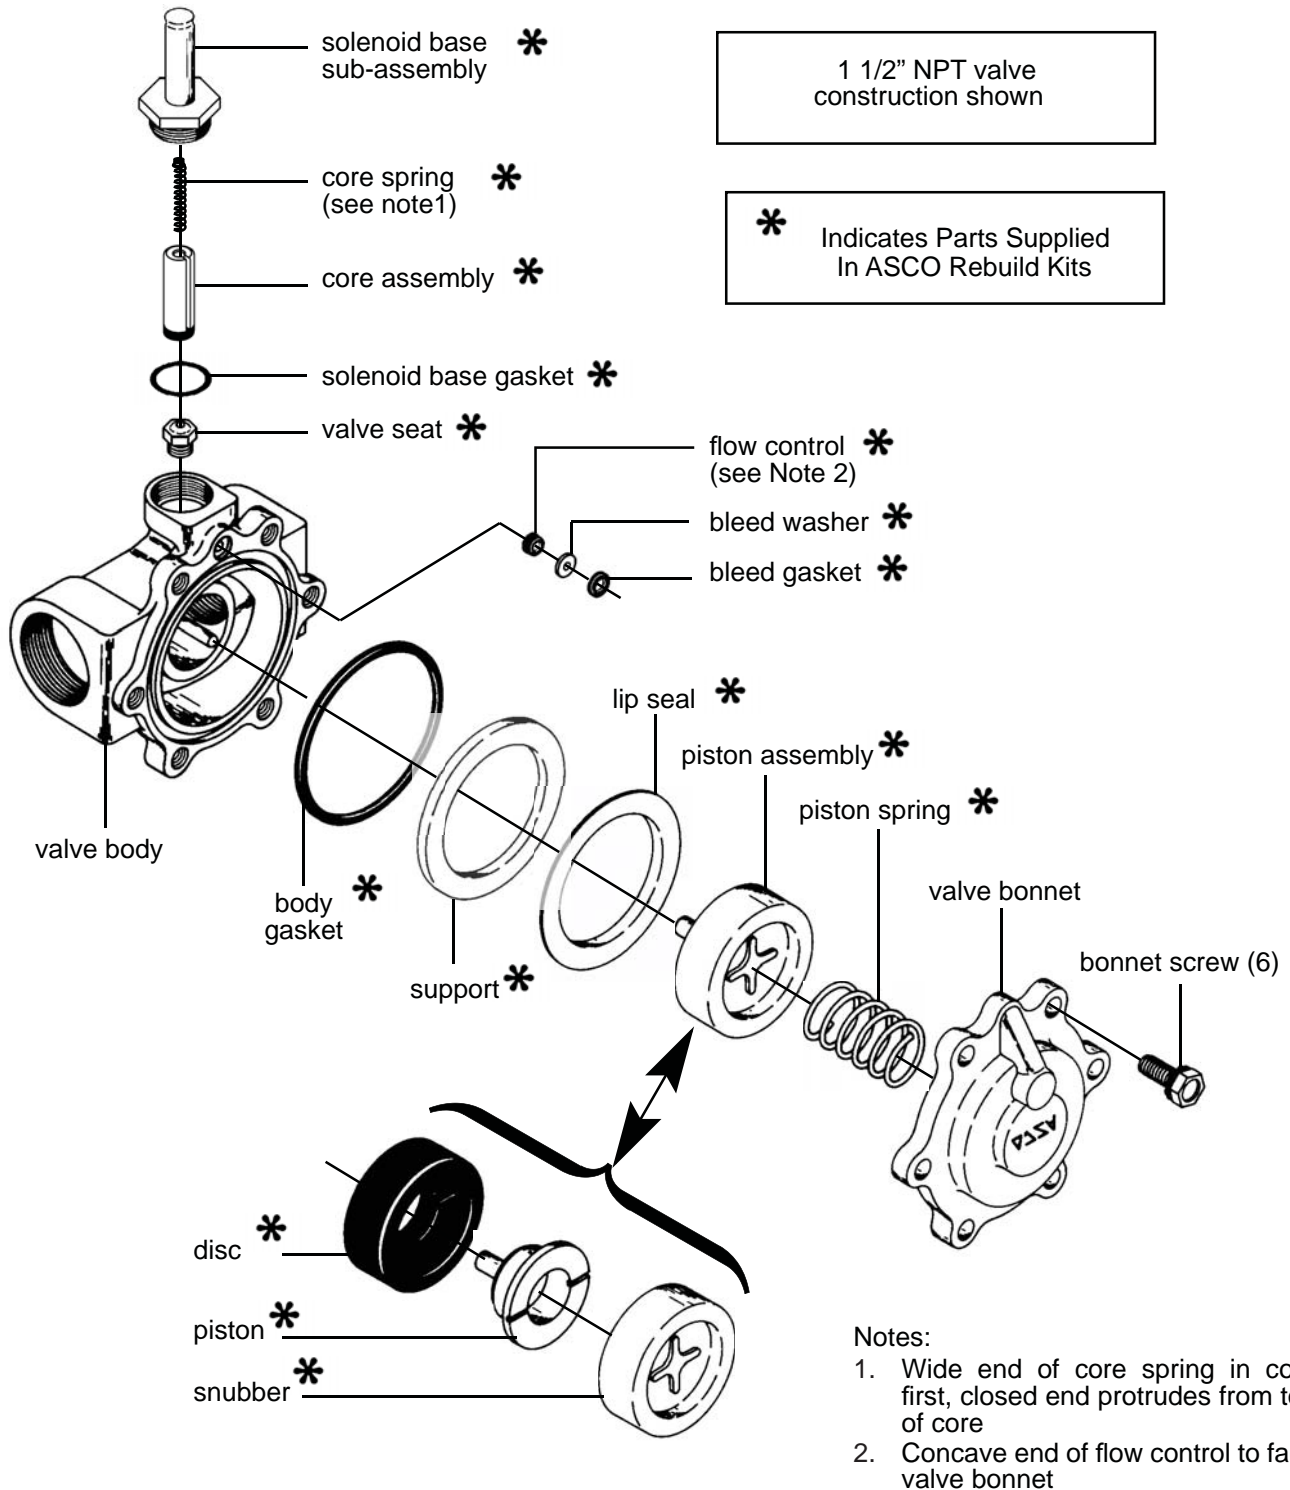
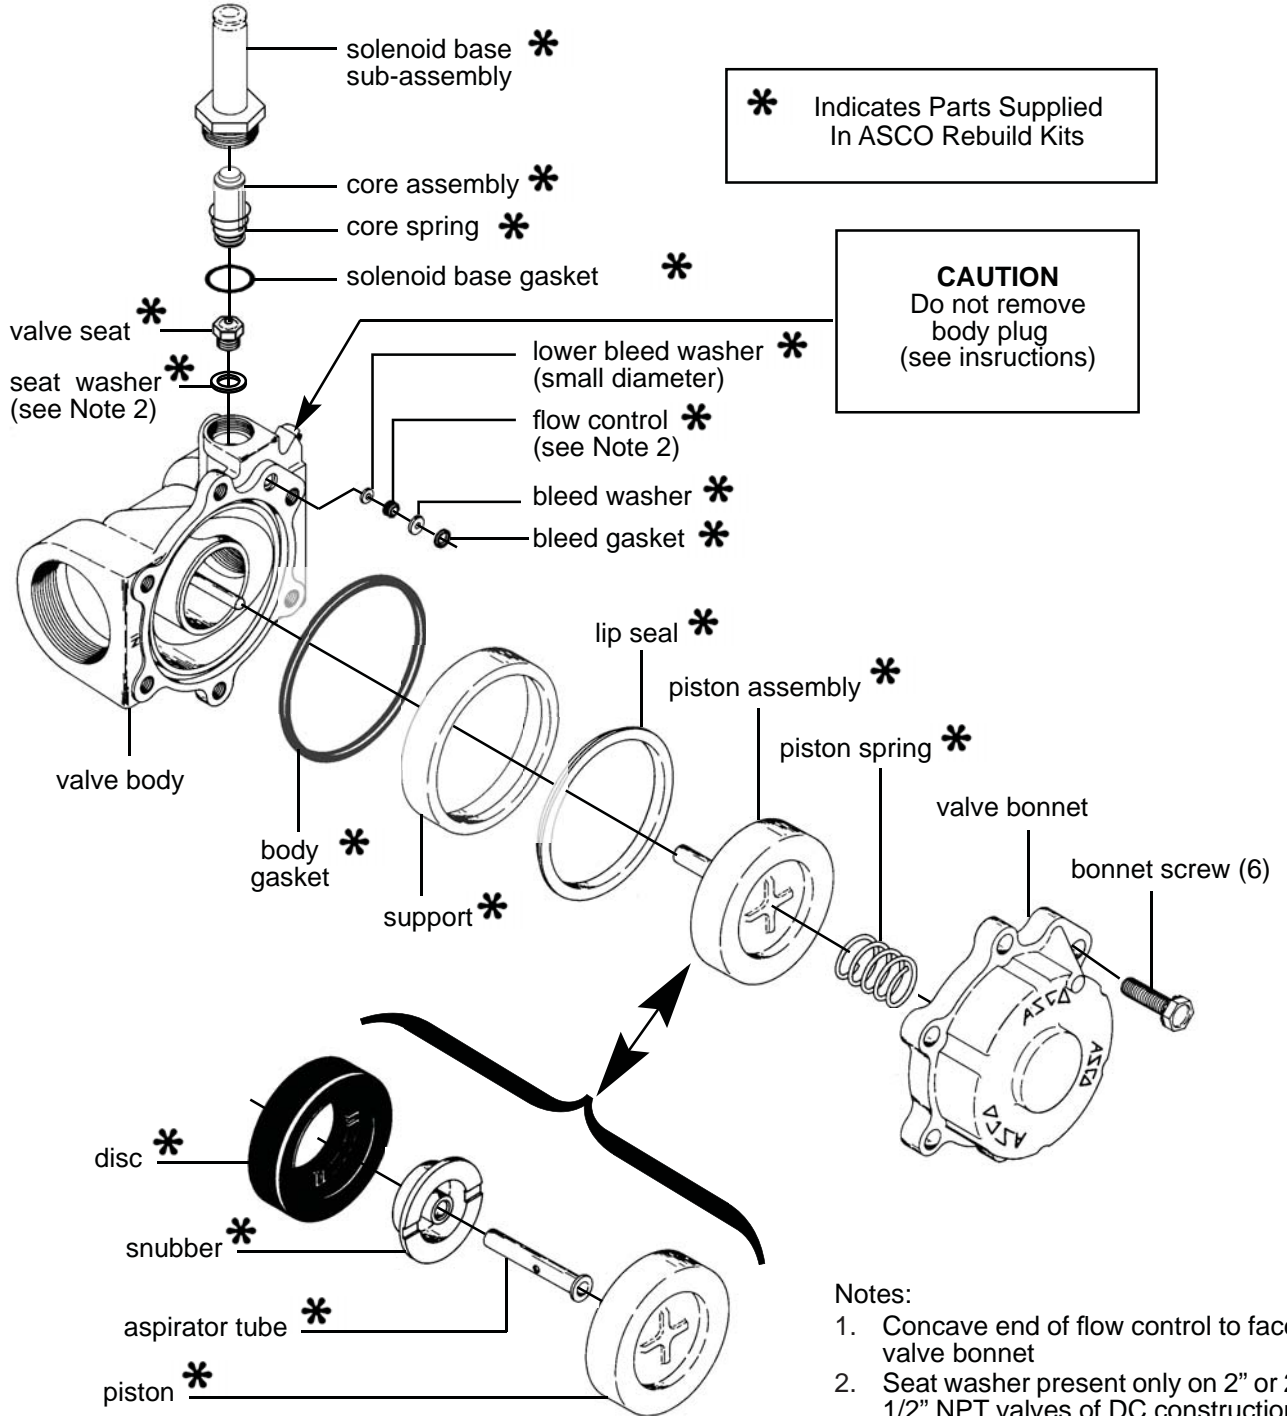

Figure 1. Series 8221 1", 1 1/4" or 1 1/2" NPT AC construction
Figure 2. Series 8221, 2" or 2 1/2" NPT DC construction
Note: Refer to Figure 1 for AC construction and 1", 1 1/4" or 1 1/2" NPT (pipe size). Refer to Figure 2 for DC Construction and 2" and 2 1/2" NPT (pipe size)
4. For normal maintenance (cleaning) it is not necessary to remove the valve seat. However, for valve seat removal use a 7/16" thin wall socket wrench. For DC Construction 2" or 2 1/2" NPT only (Figure 2), remove seat washer.
Note: For AC construction (Figure 1), position wide end of core spring in core first, closed (tapered) end protrudes from top of core.